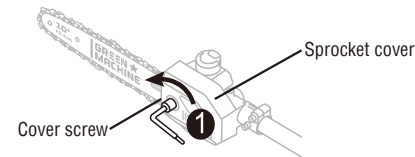

Fig.6
4. Loosen the cover screw with the socket wrench provided and remove it from the sprocket cover (Fig. 6).